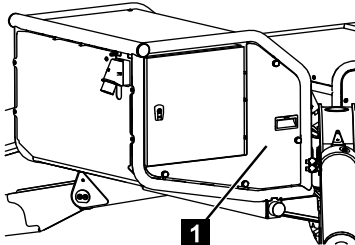

Fig. 176
2. Unscrew the cover (Fig.176/1).